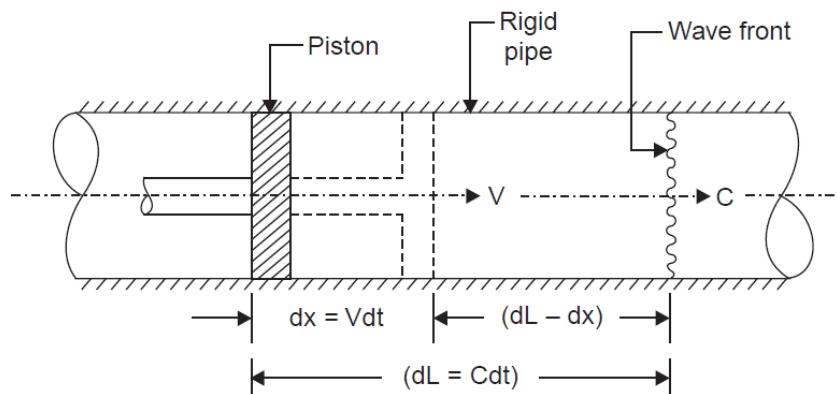

Fig.6.1 – One dimensional pressure wave propagation
- ▶ Consider a one-dimensional flow through long straight rigid pipe of uniform cross-sectional area filled with a frictionless piston at one end as shown in Fig. 6.1.